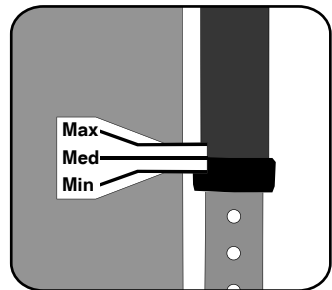

Figure 1: Downhaul until the calibration mark lines up with the bottom of the mast.
c) Downhaul your sail until the calibration mark lines up with the bottom of the mast (figure 1). We suggest using the medium mark most of the time.